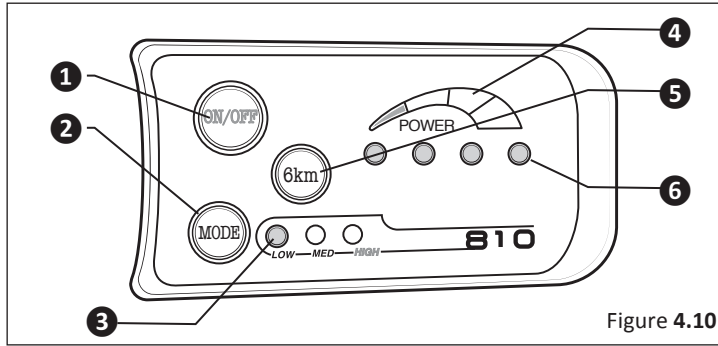

Figure 4.10
- 1 **Power button:** Press and hold for 3 seconds to turn the system on. If the system does not turn on, make sure the battery has been energized by pushing the “ON” button located on the battery itself. **Figure 4.10**
- 2 **Assist adjustment:** Using the “mode” or “+” and “-” buttons, depending on model, adjust the level of assist based on conditions. **Figure 4.10**
- 3 **Assist level:** Depending on your model the display has 3 or 5 indicators for the level of assist chosen. **Figure 4.10**
- 4 **Battery level indicator:** Depending on the model, the display has a 5-bar indicator showing battery charge. **Figure 4.10**
- 5 **Walk assist:** If so equipped, press and hold the 6KM/h button to engage the walk assist mode. This provides a small assist to help if you are walking your bike up an incline. **Figure 4.10**
- 6 **Error:** If a system error occurs, the display lights will flash in a specific sequence. See the display manual or call Schwinn Customer Service to diagnose. **Figure 4.10**